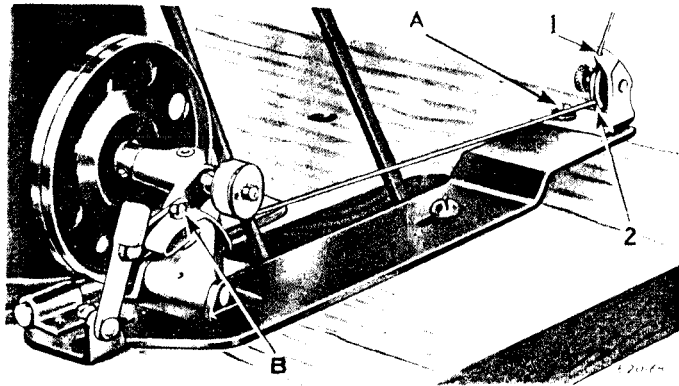

Fig. 7. Winding the Bobbin
Pass the thread down through the thread guide (1) in the tension bracket, around the back of and between the tension discs (2). Then wind the end of the thread around the bobbin a few times in the direction shown in Fig. 7, push the bobbin winder pulley over against the machine belt and start the machine.